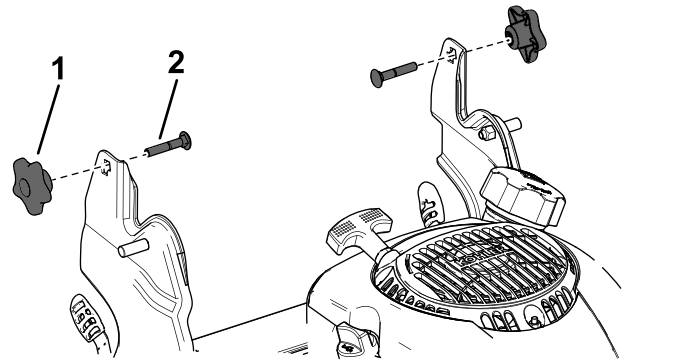

Figure 18
3. Insert the carriage bolt (with the bolt head toward the inside) through the handle bracket and the upper hole in the handle end. Ensure that the square edges of each carriage bolt fits into the upper or lower square hole in its related handle bracket (Figure 18).